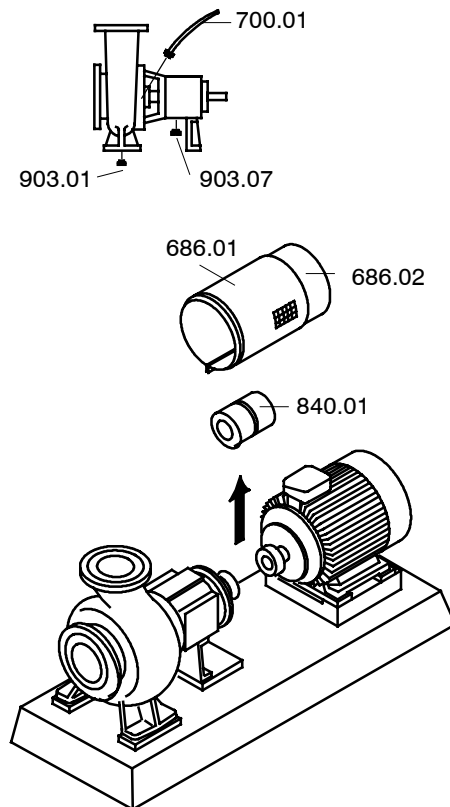

Fig. 1
- 4 Drain the pump carefully. For this, use the hexagonal plug (903.01) potentially situated at the bottom of the volute casing (102.01), Fig. 1.